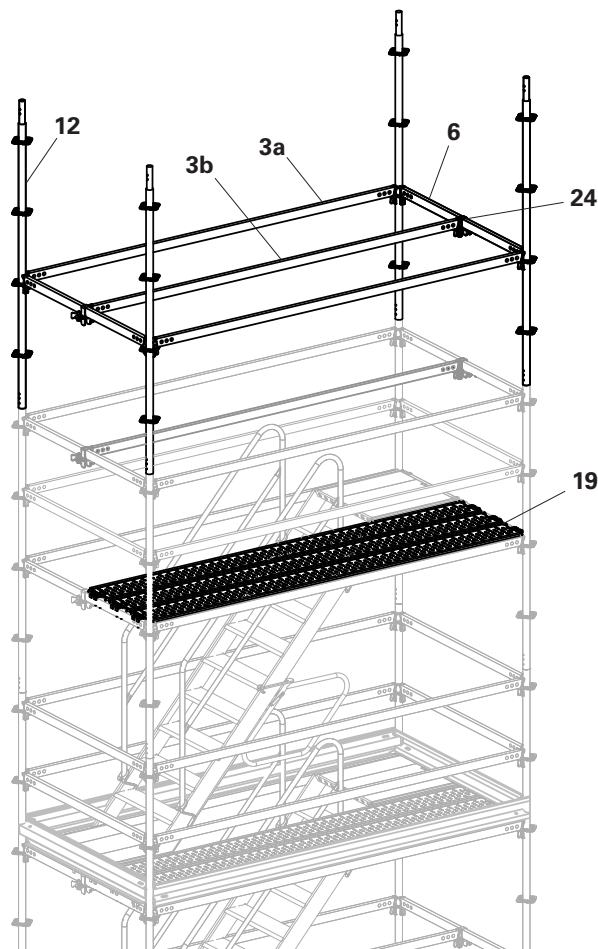

Fig. A5.01
4. Attach the internal Horizontal Ledger UH-2 300 (**3b**), connected to the Horizontal Ledgers UH-2 150 (**6**) with Ledger Brackets UHA Half (**24**). (Fig. A5.01)